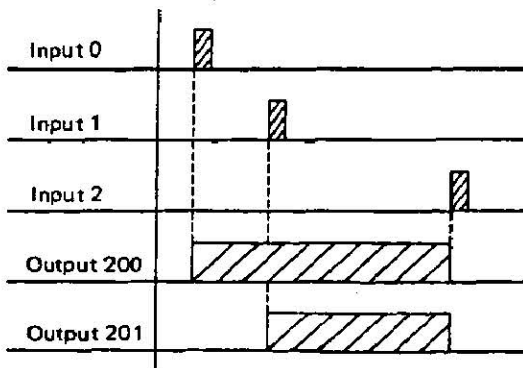

Fig. 1 Time Chart
This example performs the operation of Fig. 1 time chart.
(2) Make sure that the RUN indicator is ON and turn inputs ON according to the Fig. 1 time chart to see if the MICRO-1 operates as programmed.